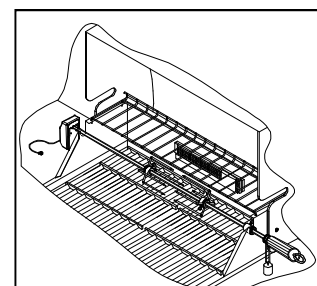

Fig.6
6. Completed Assembly. (See Fig. 6)